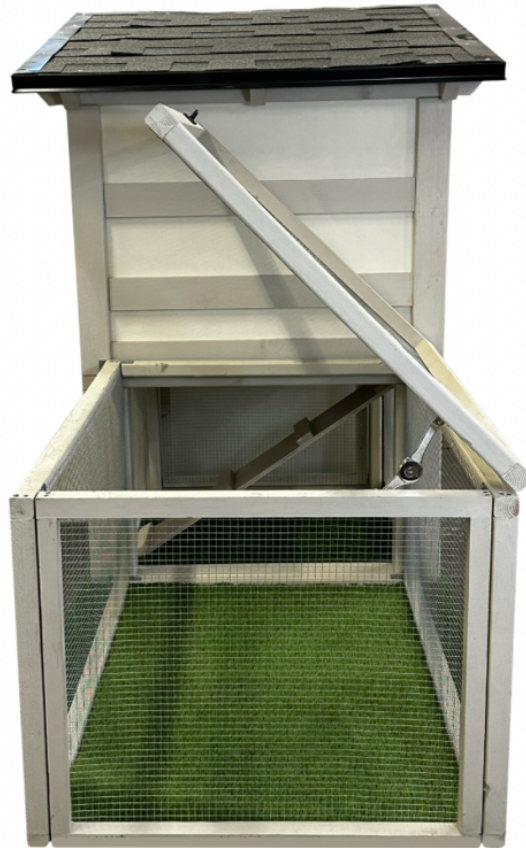

Figure 2.0
Step 12.) Next attach the open side of the run frame to the open side or back of the base enclosure using the metal “L” brackets D12-15. See Figure 2.0 (shows attachment to the back of coop)